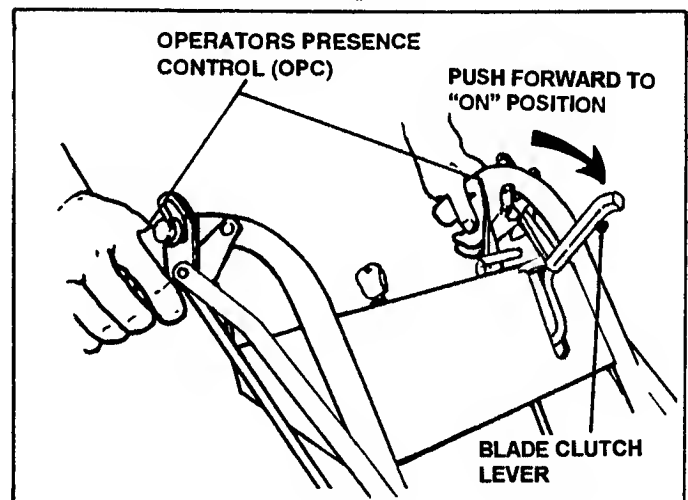

FIGURE 11
- 8b. **PISTOL GRIP** - See Figure 11.